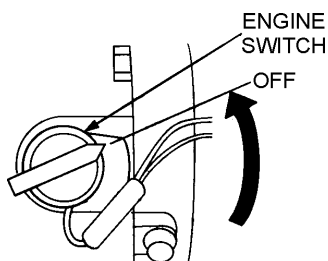

Figure 19. Engine ON/OFF Switch (OFF)
- Turn the engine ON/OFF switch to the "OFF" position (Figure 19).